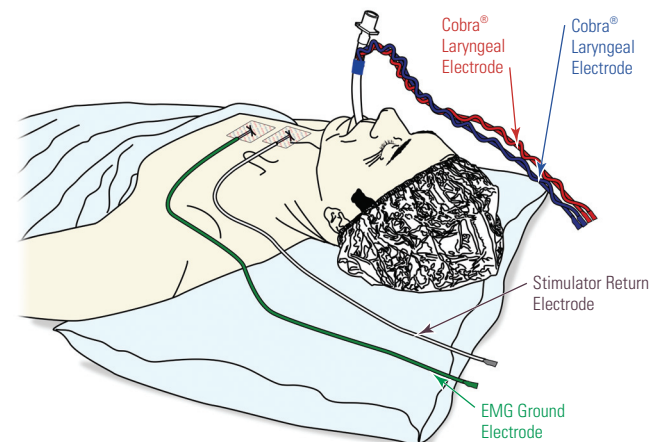

Figure 3
6) Attach the pairs of red and blue electrode lead wires to the + and - terminals of the EMG recording device and apply the EMG ground and stimulator return electrodes to the sternum as shown in Figure 3.